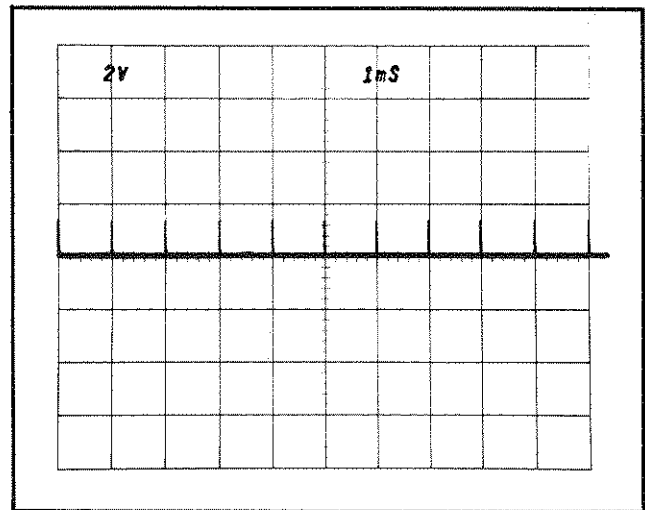

Fig. 5-7. CRT display showing SWP CAL adjustment correctly set.
- d. CHECK—CRT display for one 1 ms marker for each division between the second and tenth vertical lines (see Fig. 5-7).